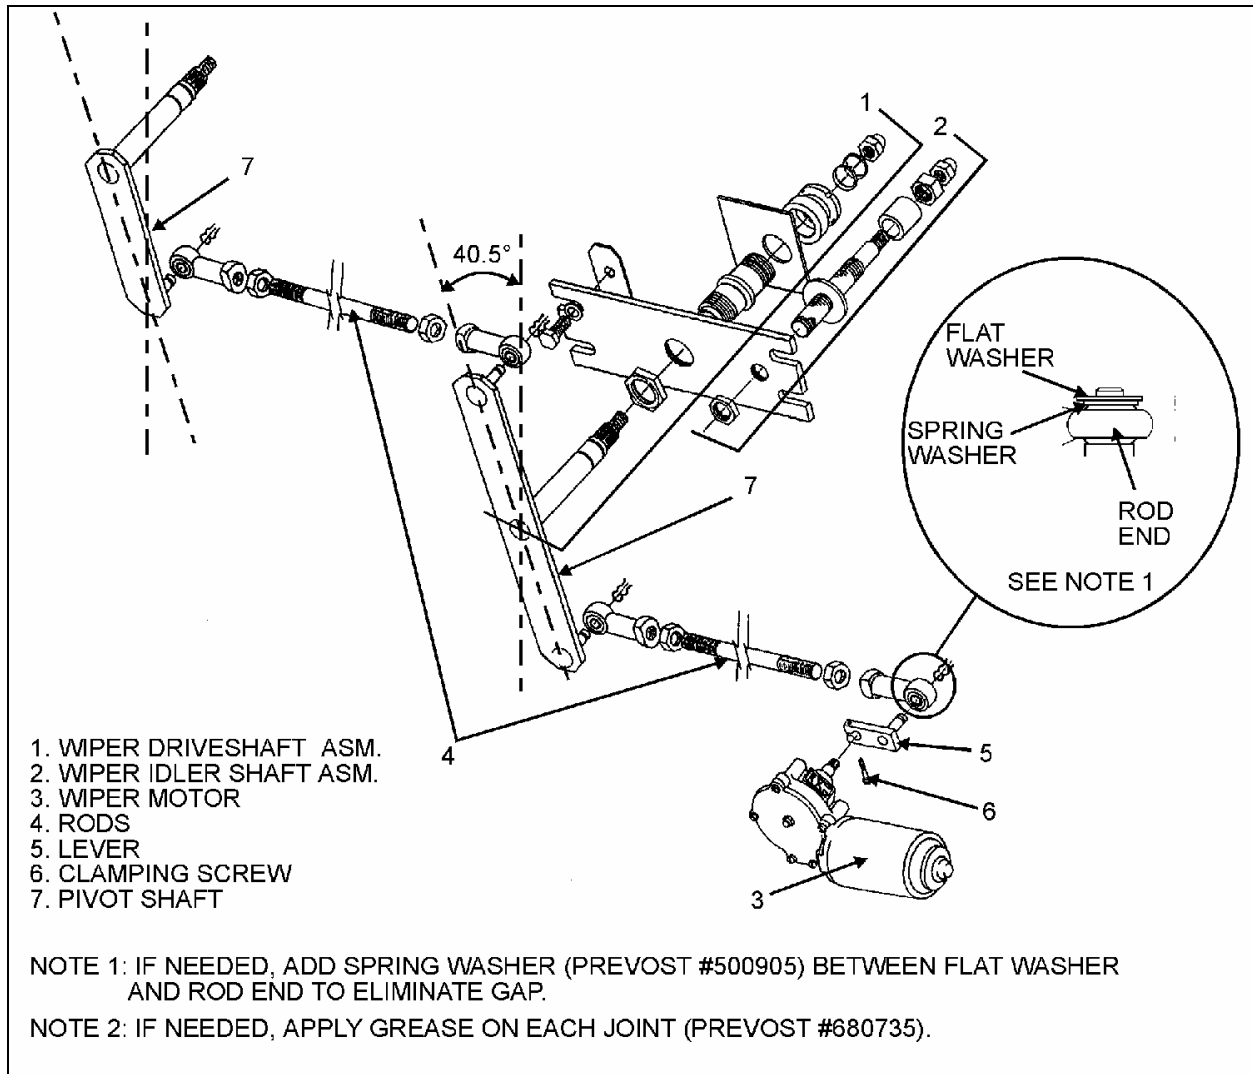

FIGURE 35: LOWER WINDSHIELD WIPER INSTALLATION
4. Adjust the rod located between right pivot shaft and motor to a 40.5° angle (Fig. 35). The motor lever must be on the same axis as the rod.
3. Loosen clamping screw retaining the lever at the end of the motor driving shaft (Fig. 35).